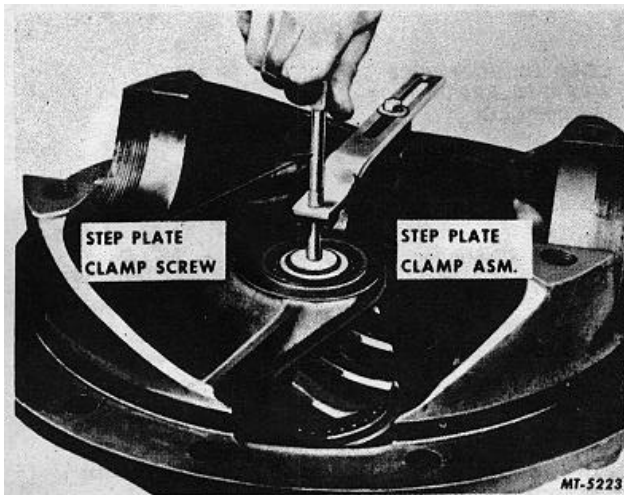

Fig. 13 Locating Step Plate Clamp
14. Install pinion, cage and bearing assembly in differential carrier. Obtain step plate clamp assembly from SE-1065 Pinion Setting Gauge set and attach it to differential carrier flange, locating step plate clamp screw over center of pinion (Fig. 13).